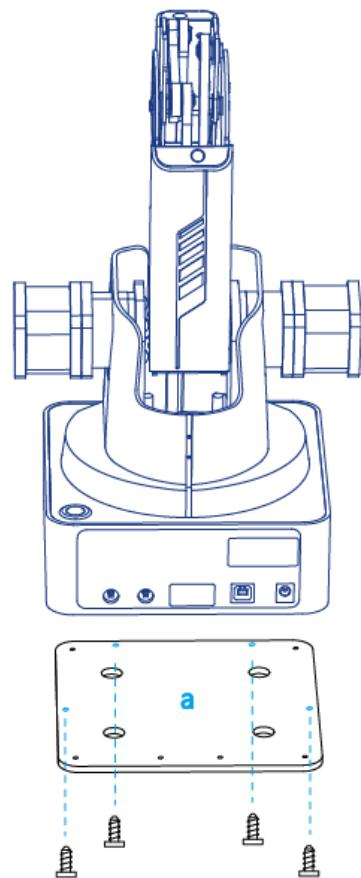

Figure 5.189 Fix plate a
**Step 1** Mount Dobot Magician on the plate a with four M3\*10 countersunk head cap screws (The counter bore of plate a is outwards), as shown in Figure 5.189.